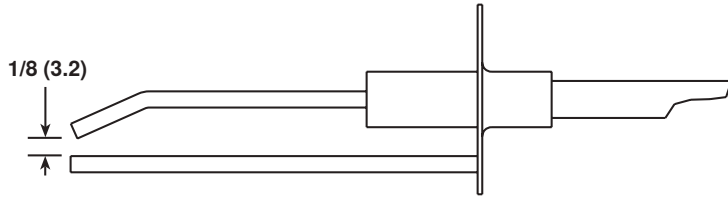

Figure 23. Ignitor Spark Gap
- The spark gap (see Figure 23) must be maintained to 1/8 inch.